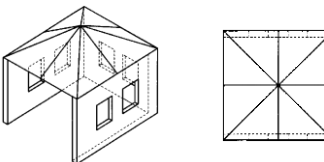

Figure 5 - Open side at least 25% of total wall area.
- At least 30% of the remaining wall area is open and unrestricted, (refer to Figure 5)